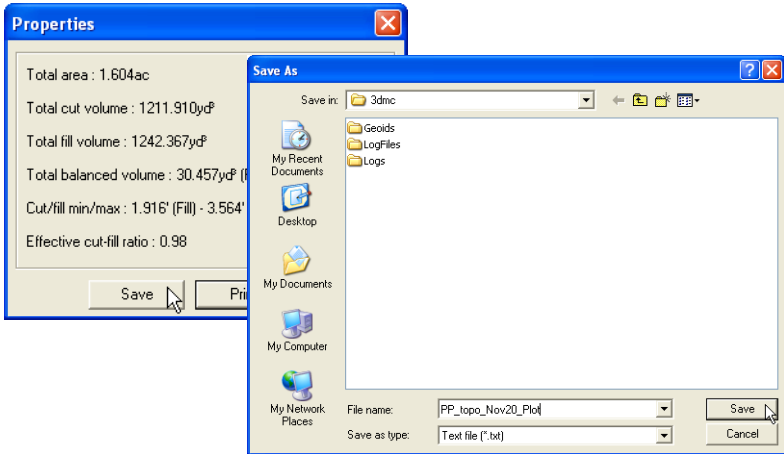

Figure 10-3. Save Plot Properties As Text File
1. Click **Cut/Fill ▶ Plot properties** and click **Save** (Figure 10-3 on page 10-3).